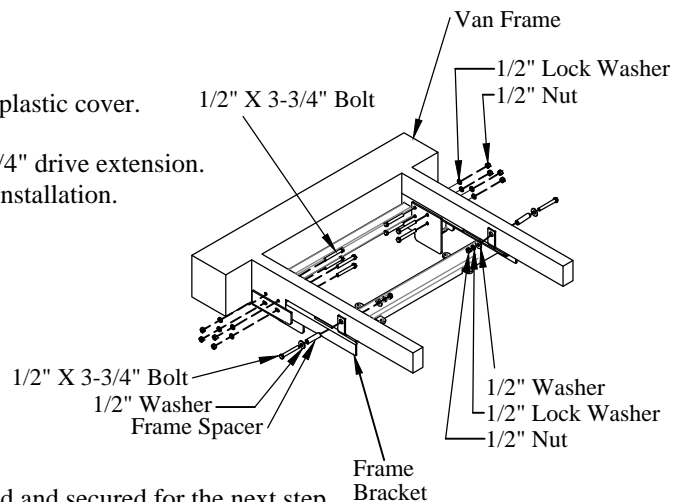

Figure 8: Frame bracket location.
7. **Attach** the rear end of the frame bracket to the van frame using eight (8) supplied 1/2" x 3-3/4" bolts, lock washers, and nuts.
8. **Drill** two (2) Ø3/4" holes through the van frame, using the holes in the frame bracket as a guide (Figure 8). Hold the frame bracket against the bottom of the van frame while performing this step.